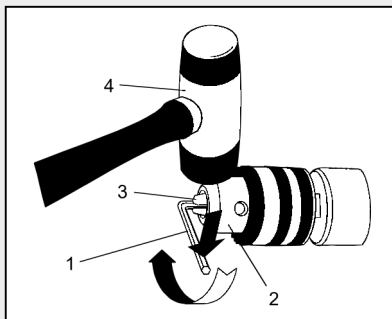
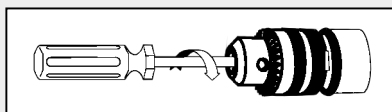

Fig. 10
Fig. 11
2. Insert a 5/16" or larger hex key (1) into the chuck (2) and tighten the chuck jaws securely. Make sure each of the three chuck jaws (3) is seated on a flat surface of the hex key (Fig. 10).
3. Tap the hex key sharply with a mallet (4) in a clockwise direction. This action will loosen the screw in the chuck for easy removal.
6. Remove the chuck screw using a #2 Philips® screwdriver (Fig. 11).
2. Tap hex key sharply with a mallet in a CLOCKWISE direction (Fig. 10 on Page 20). This will tighten the chuck on the spindle.